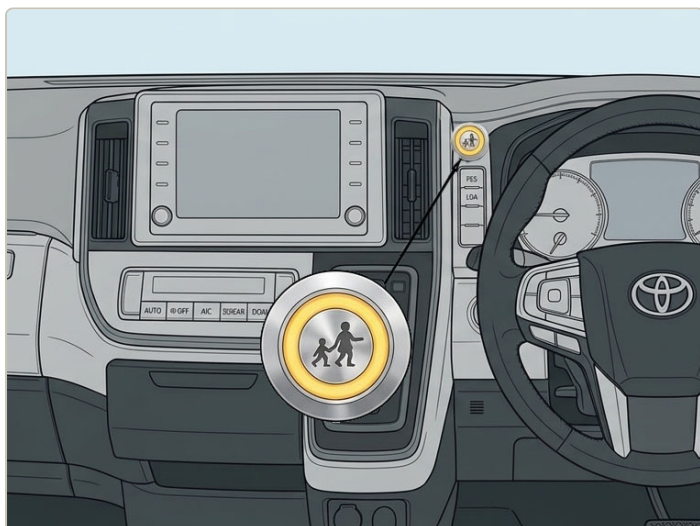

Fig. 4 — Switch location on dash
1. Using an 18–20mm hole saw, cut a hole in the dash and insert the supplied switch. See Fig 4